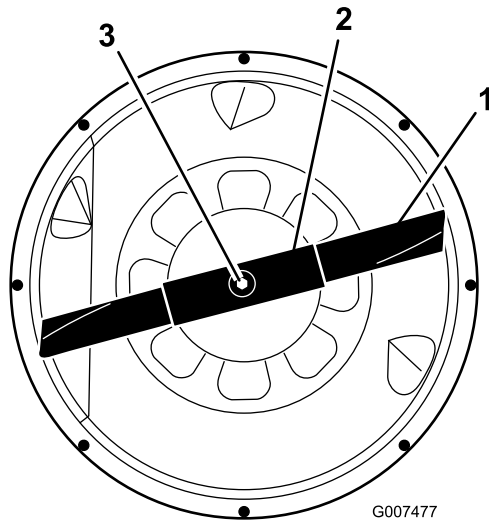

Figure 33
6. Grasp the end of the blade using a rag or thickly padded glove. Then remove the blade bolt, curved washer, blade stiffener, and blade (Figure 33). A block of wood may be wedged between the blade
1. Install the blade, blade stiffener, curved washer, and blade bolt (Figure 33).